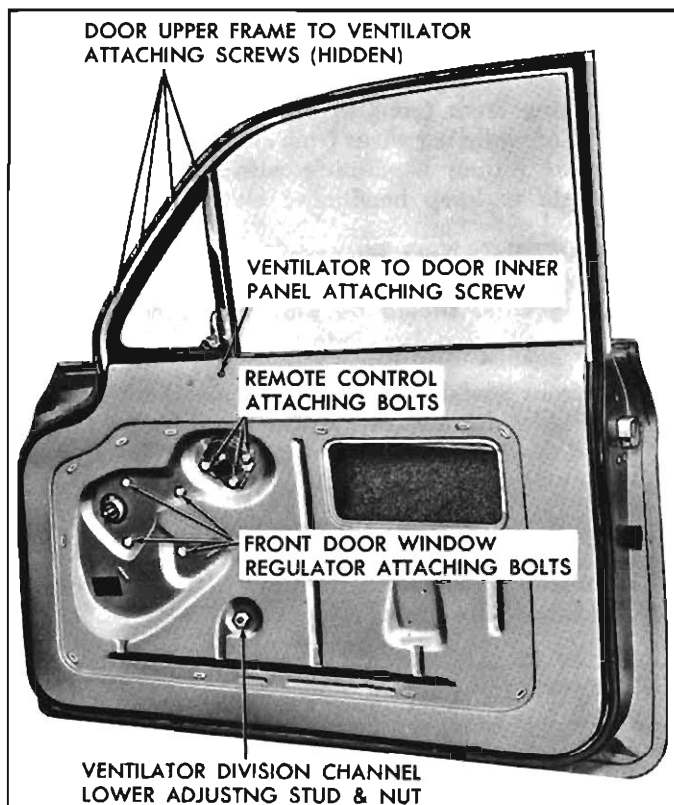

Fig. 10—Front Door Ventilator Attachment
1. To adjust the hinge pillar (front) edge of glass, lower door window and loosen ventilator division channel adjusting stud and nut; turn adjusting stud in or out or position lower end of channel fore or aft (as required) and tighten stud nut (See Figure 10).
1. Raise door window, remove door trim pad and detach inner panel water deflector. Refer to Figure 10 for sedan styles.